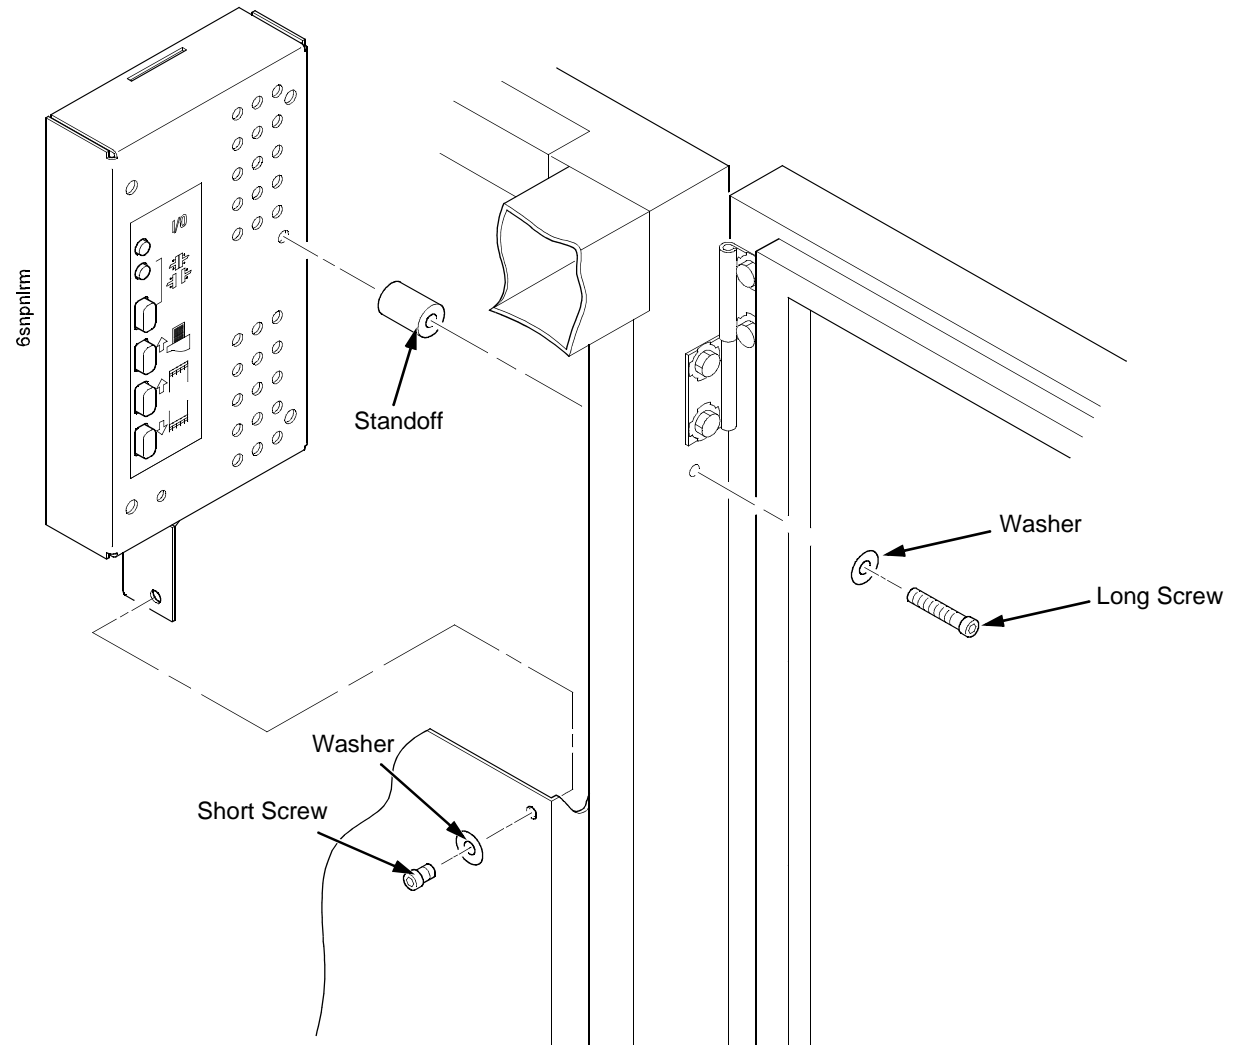

Figure 78. This figure shows how to remove an early stacker operator panel from the cabinet frame.
6. Remove the screws, washers, and standoff from the stacker operator panel. (Figure 78.)